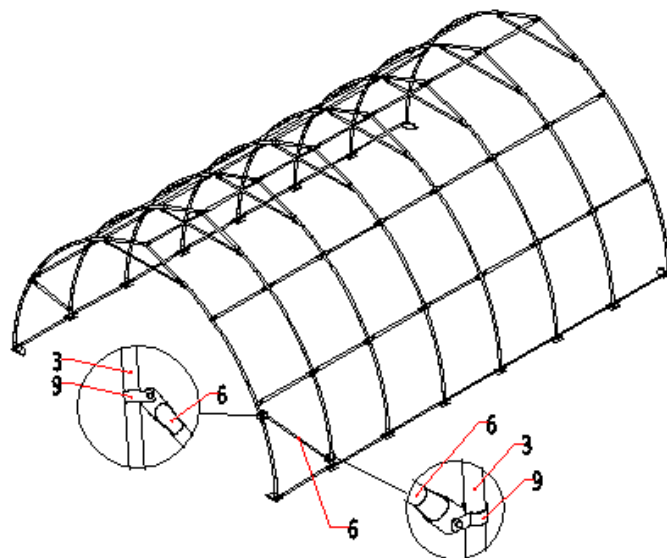

Figure 6
- Connect diagonal bracing bar (#6) with tube clamp (#9) and bolt (#13) on the first span as Figure 6 below.
- (4) Tube clamps (#9)